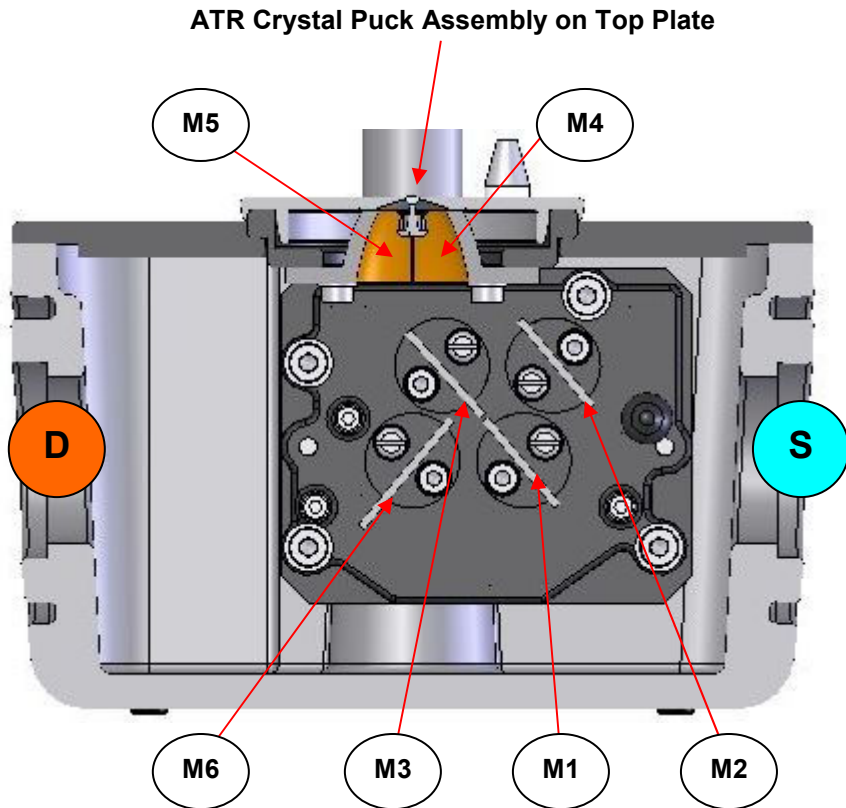

Fig 6. Cutaway front view of Quest ATR Accessory to show the Synopti-Focal arrangement of mirror components
The Quest ATR Accessory is based upon Synopti-Focal technology which uses an innovative synoptic focusing array of highly reflective gold coated mirrors only for the optical pathway when a different ATR crystal puck assembly is positioned for use on the optical unit. The mirror arrangement and IR beam sequence through the Quest ATR Accessory can be seen from the cutaway front view in Fig 6.
Note: *The flat mirror **M2** and the hemispherical mirrors **M4** and **M5** do not require adjustment for the alignment procedure. A cover has been placed over the rotation adjustment screw for mirror **M2** (see Fig 6.) to prevent access for accidental movement.*
- 3) Using the 2.5mm ball driver tool in the grub screw (9) to rotate mirror **M3** and in the grub screw (11) to rotate the mirror **M1**, adjust both mirrors to form a straight line for both of their mirror surfaces. Refer to **Fig 6** to indicate how they need to be roughly aligned to form a straight line orientation.
- 4) Mirror **M6** now needs to be adjusted for its rotation using the 2.5mm ball driver in the grub screw (7) such that its surface is similar in angular relation to the straight line formed by the two mirrors **M3** and **M1** as seen at **Fig 6**. An indication that a correct rotational angle for mirror **M6** has been achieved is when the grub screw (7) is proud of its mirror carriage frame assembly housing by circa 2mm. This depth indication for the grub screw (7) position can be observed looking through the aperture port (16) on the left hand side of the optical unit.
- 6) Set up the IR spectrometer to record an energy throughput level at the detector. Having followed steps 2) to 5) from the procedure above, there should now be some energy level indication (however small), at the detector after passage of light through the Quest ATR accessory and so the correct fine alignment procedure can now be followed starting with further rotation of mirror **M6** as described from step 1) on page 15 of this instruction manual. However, even if there is still **no signal** after steps 2) to 5), then turning the grub screw (7) for rotation of the mirror **M6** (first one way and then the other), at this stage now should lead to the energy level signal returning.